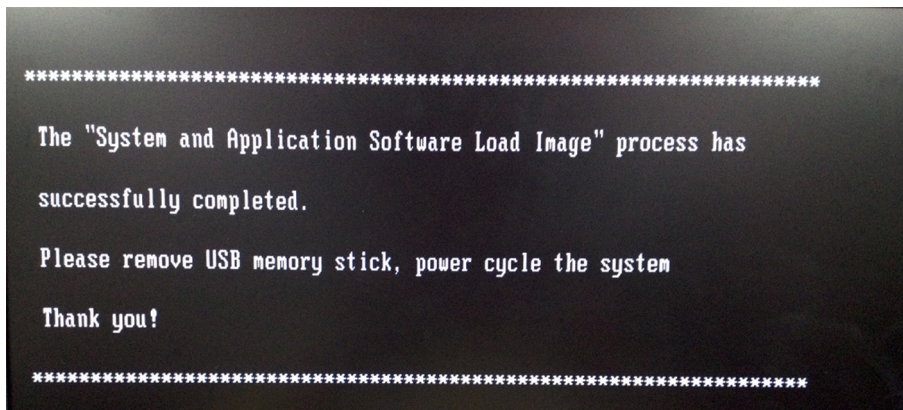

Figure 8-18 System upgrade complete
9.) System updating finished, refer to Figure 8-18 on page 8-8.